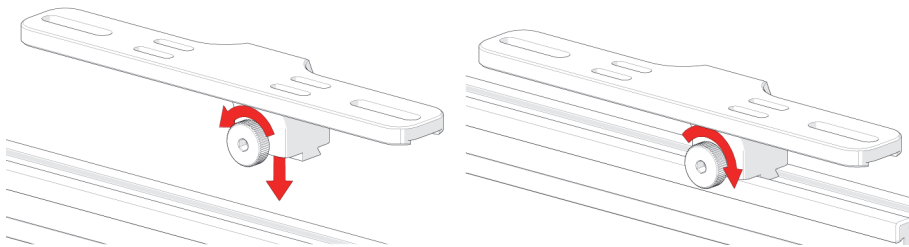

Figure 2-58 Preamp bracket
1. Loosen the knob and align the dovetail nut with the dovetail groove (see Figure 2-58 on page 76).
2. Tighten the knob to lock the preamp bracket in place (see Figure 2-58 on page 76).